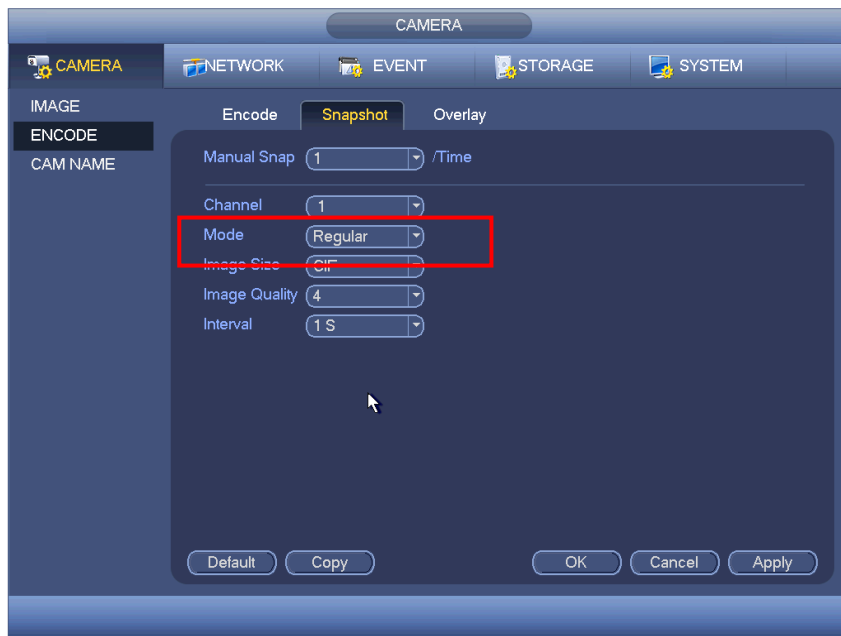

Figure 4-114
- In main menu, from Setting->Camera->Encode->Snapshot interface, here you can input snapshot mode as regular, size, quality and frequency. See Figure 4-114.